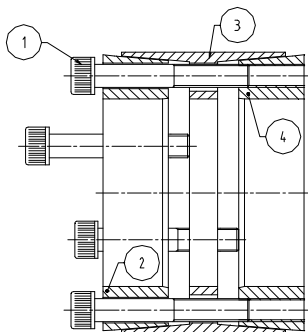

Fig. 1
(Refer to fig.1)
2. Loosen all screws by minimum 2 turns and transfer at least 2 screws to push-off threads in clamp collar item [2] and center collar item [3] in order to disengage tapers for easy installation of locking assembly (see fig. 1).